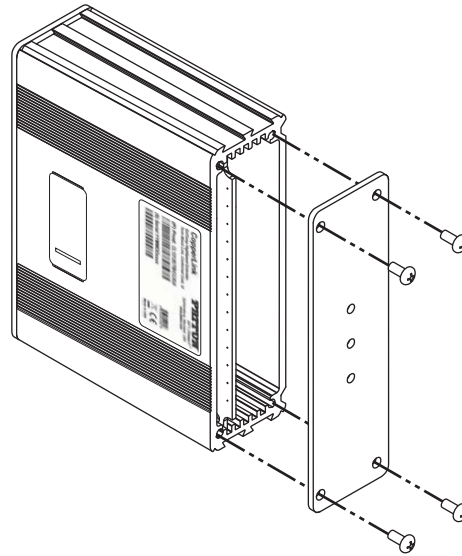

Figure 3. Removing the rear panel
1. Using a cross-tip screwdriver, remove the four screws from the rear panel of the CL1200E as shown in figure 3 on page 18.
1. Using a cross-tip screwdriver, remove the four screws from the rear panel of the CL1200E as shown in \(figure 3 on page 18\).
1. Using a cross-tip screwdriver, remove the four screws from the rear panel of the CL1200E as shown in figure 3 on page 18).